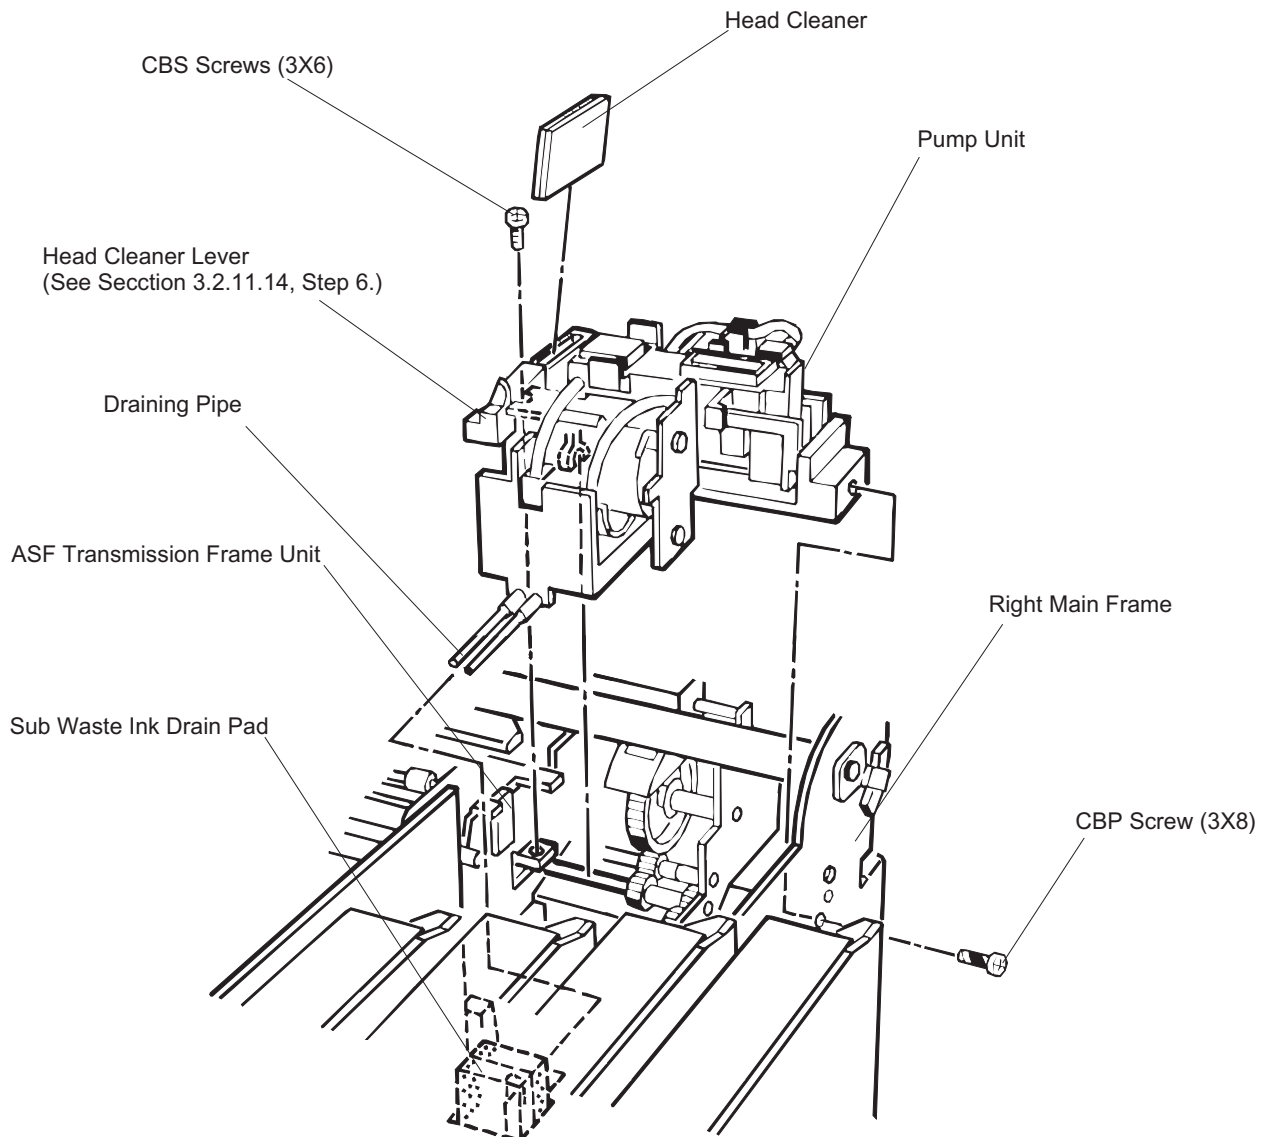

Figure 3-20. Pump Unit Installation
- When installing the head cleaner to the pump unit, face the rubber part of the clear to the pump side, as shown in Figure 3-20.
* Head cleaner lever: See Figure 3-20.